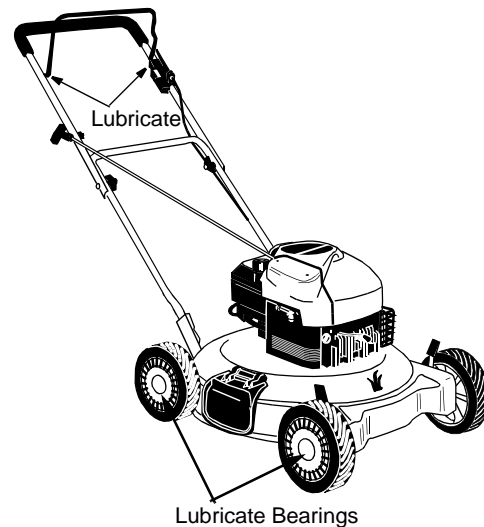

Figure 10
- Lubricate the pivot points on the blade control handle and the brake cable at least once a season with light oil. See Figure 10. The blade control must operate freely in both directions.